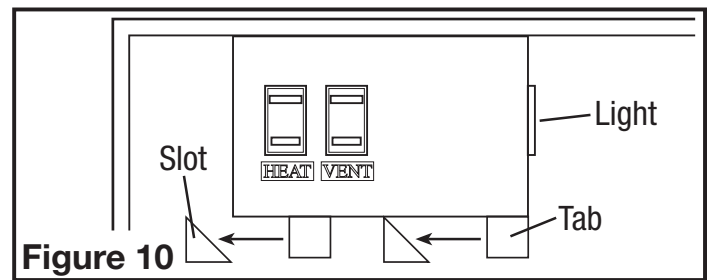

Figure 10
3. Reinstall the wire compartment cover by sliding the tabs at the bottom of the cover into the slots in the housing. Make sure all wires are tucked inside of the compartment and are not being pinched or showing through. Reinstall the two screws removed in **Step 3** of **SECTION 1 Preparing the Unit (Figure 10)**.